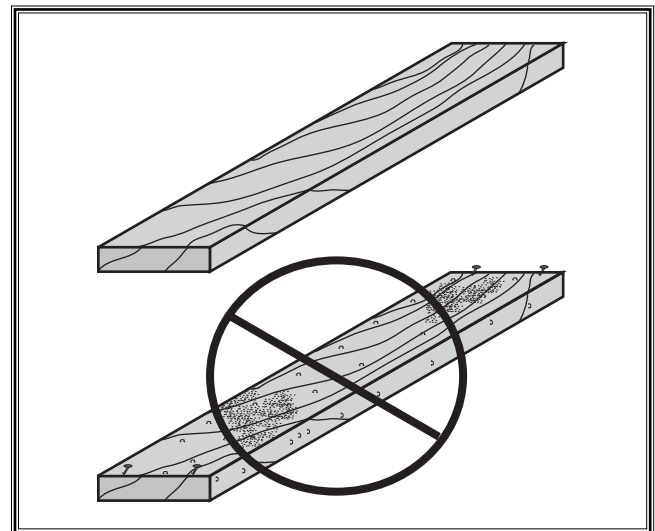

Figure 29. Only plane clean stock.
1. Choose clean wood only. See Figure 29. Scrape off all glue from joined boards before planing. Remove all dirt, nails, staples, and imbedded gravel, etc. A hidden nail in the wood will instantly damage the sharp edges of the knives and cause unsatisfactory results in all future planing operations. Plane only natural wood fiber. Never plane wood composites such as particle board, plywood or MFD. Never plane laminates, formica, or other synthetic materials.